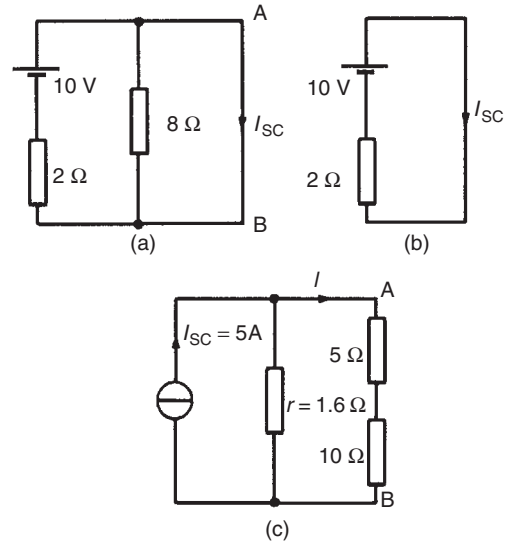

Figure 13.55
- (i) The branch containing the $10\ \Omega$ resistance is short-circuited as shown in Fig. 13.55(a)
- (ii) Fig. 13.55(b) is equivalent to Fig. 13.55(a).
- (iii) If the 10V source of e.m.f. is removed from Fig. 13.55(a) the resistance 'looking-in' at a break made between A and B is given by:
- (iv) From the Norton equivalent network shown in Fig. 13.55(c) the current in the $10\ \Omega$ resistance, by current division, is given by: